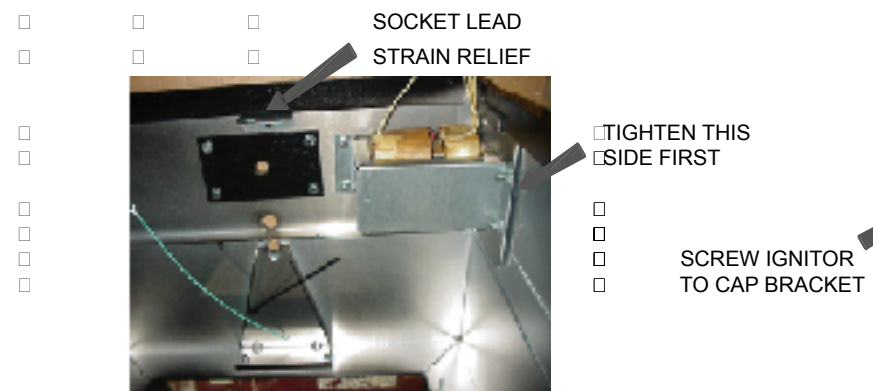

Figure 1
1. Loosen (4) top cover screws (do not remove - screws are captive). Allow cover to hang over side of housing on safety cable (do not remove cover).
6. Remove ballast by loosening (4) hex nuts and bracket. Set nuts and bracket aside to reuse. Discard ballast per local code.
7. With new ballast leads pointing upwards, install ballast using bracket and nuts. See Figure 1.